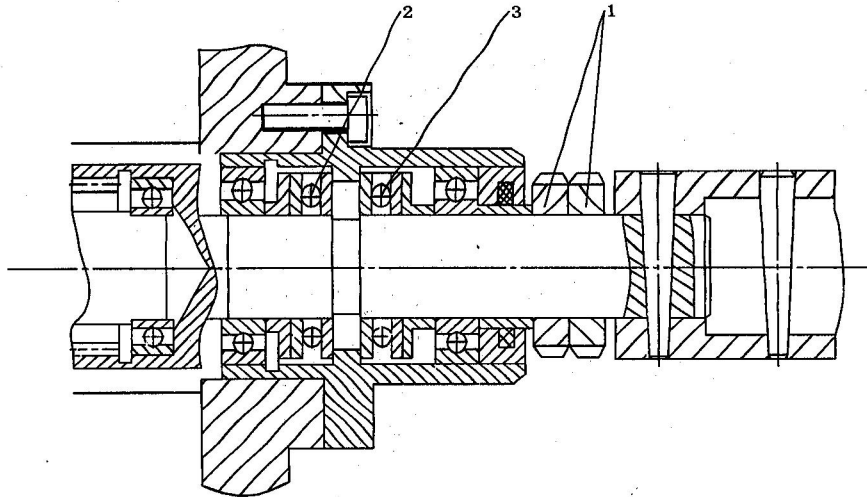

Fig.11-9 Screw shaft anti-thrust bearing adjustment diagram
must be adjusted with nut (1). See Fig. 11-9.